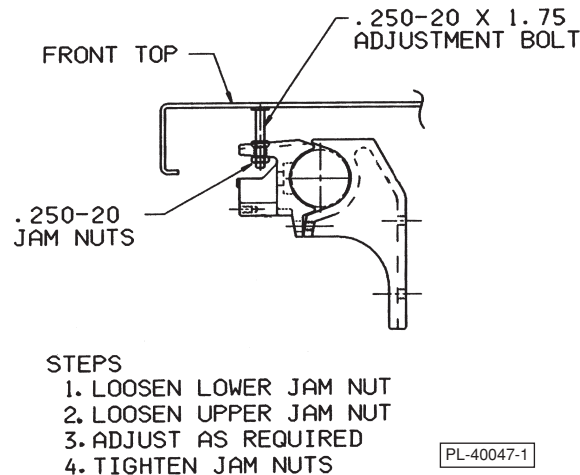

Fig. 4
6. If front plates do not line up perfectly, adjust by means of bolts under front plate. Similar front adjustment is provided for the one-piece cast iron griddle (Model GH60) (Fig. 4).